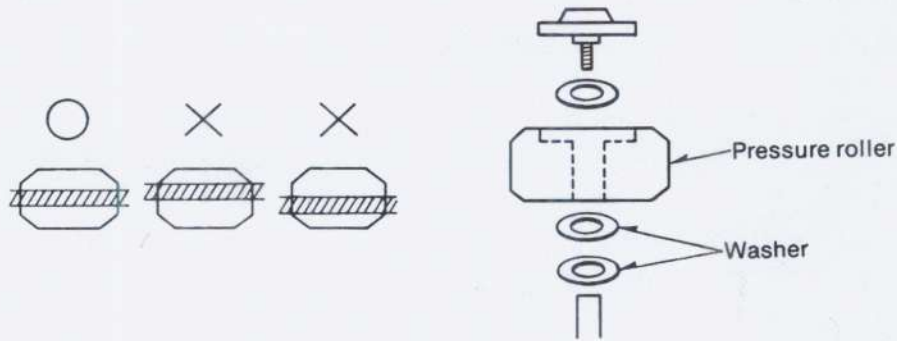

Fig. 21
- (1) Thread tape; place unit in playback mode.
- (2) Check whether or not tape movement is at center of pressure rollers.
- (3) If tape movement is too high or too low, adjust the number of washers shown in figure 21.